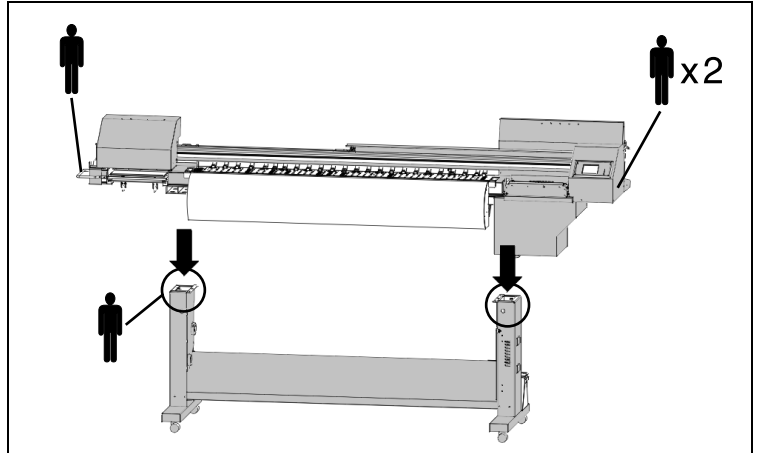

Fig. 1-4. Lowering the printer onto the stand
19. Lift printer straight up and lower onto the stand legs (see Fig. 1-4).